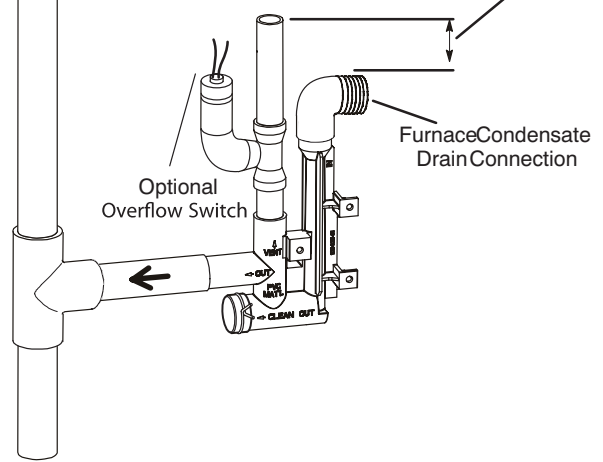
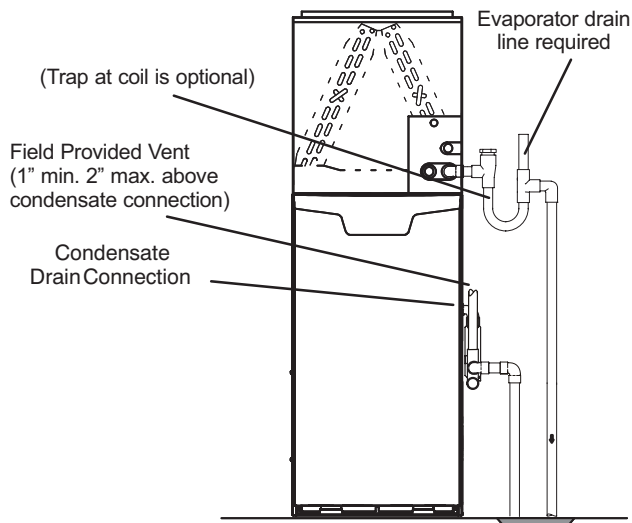
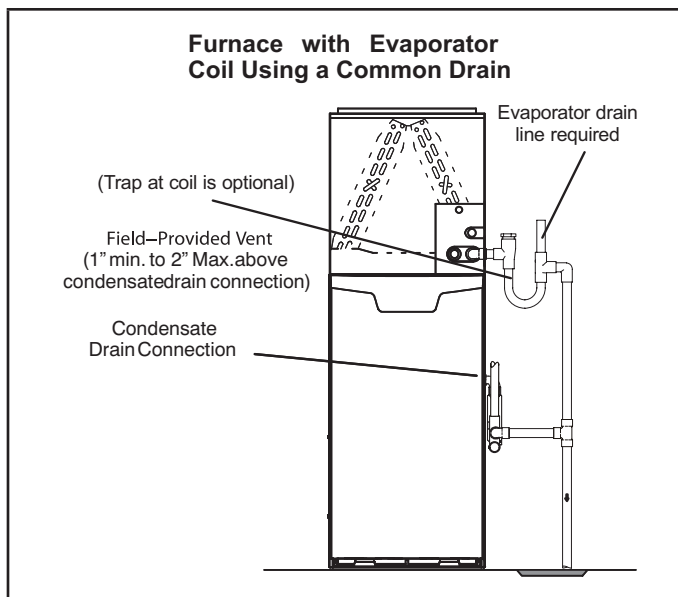

Figure 51
Figure 50
Figure 53
- 5 - Figures 50 and 52 show the furnace and evaporator oil using a separate drain. If necessary the condensate line from the furnace and evaporator coil can drain together. See figures 51, 53 and 54. **Upflow furnace (figure 53)** - In upflow furnace applications the field provided vent must be a minimum 1" to a maximum 2" length above the condensate drain outlet connection. Any length above 2" may result in a flooded heat exchanger if the combined primary drain line were to become restricted. **Horizontal furnace (figure 54)** - In horizontal furnace applications the field provided vent must be a minimum 4" to a maximum 5" length above the condensate drain outlet connection. Any length above 5" may result in a flooded heat exchanger if the combined primary drain line were to become restricted.